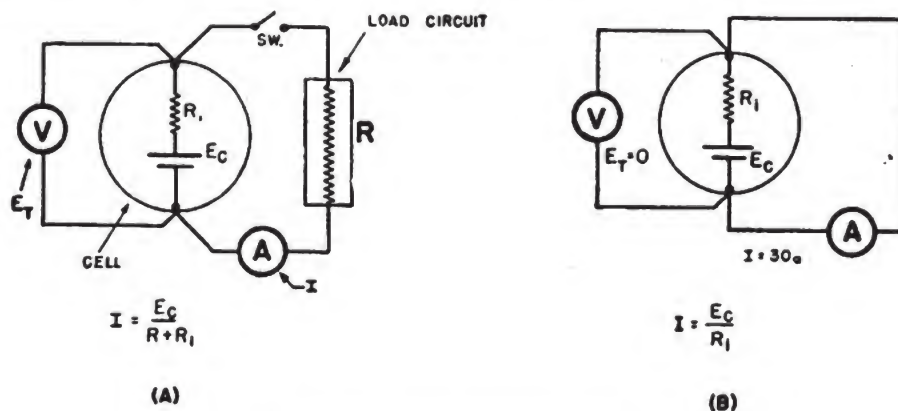

Figure 66.—Cell terminal voltage.
In (A) of figure 66, you have a 1.5-volt dry cell connected in a simple circuit. When the switch is open, the cell delivers no current, and the terminal voltage (E_t)—that is, the voltage across the terminals—will be the same as the cell voltage (E_c). The terminal voltage is also known as the OPEN-CIRCUIT or NO-LOAD VOLTAGE of the cells.
The fall in terminal voltage sets a definite limit to the amount of current you can draw in the circuit. If you reduce the load resistance to zero, as you see in (B) of figure 66, the cell is short-circuited and maximum current flows.